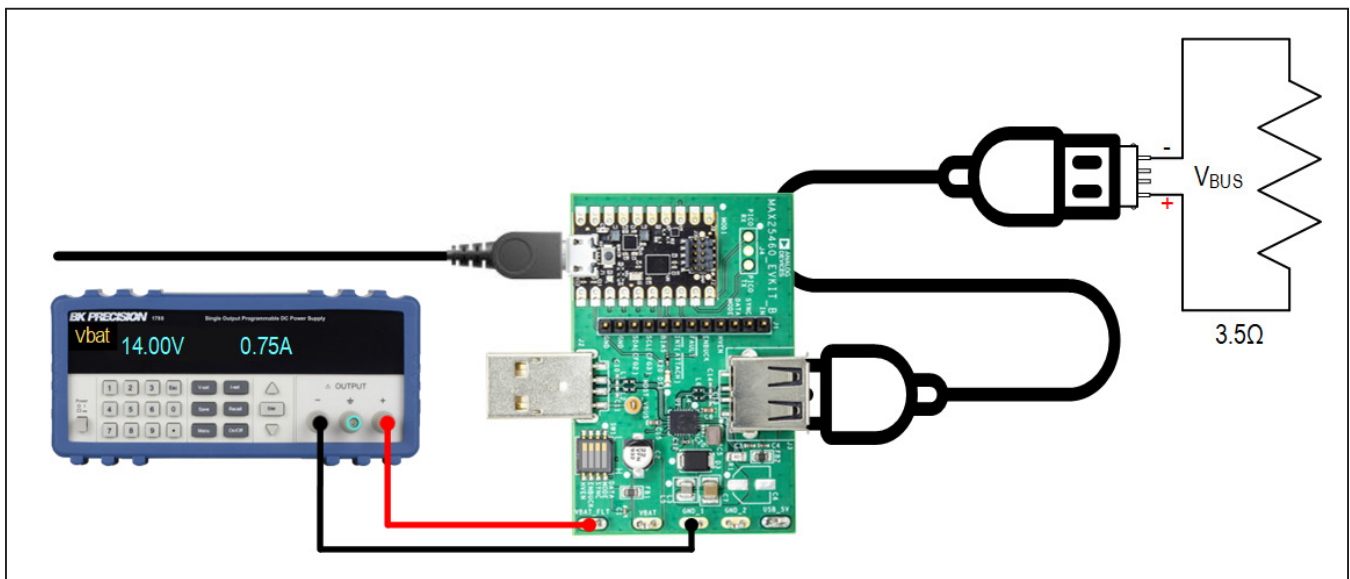

Figure 4. EV Kit Setup for Cable Compensation
- 18) Connect the Type-A plug to the other end of the extension cable (see Figure 4).